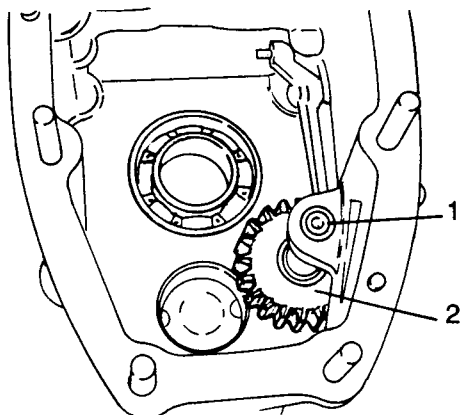

Fig H1.68
- (3) Refer to Fig H1.68. Remove reverse pinion shaft (1) towards the rear of the casing, using a press.
- (4) Remove the gear (2).
- (5) Remove the selector shafts and forks (see Sub-sub-section H1.3, Chapter 4).